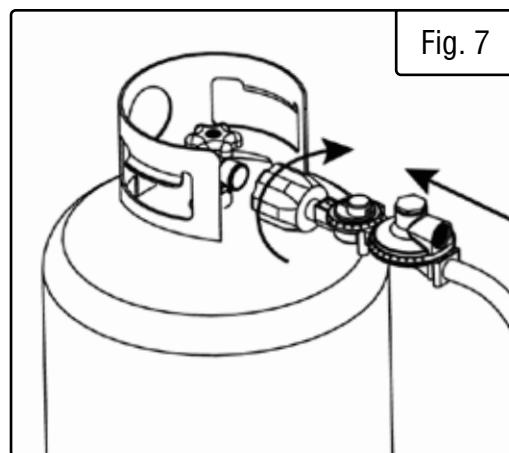

Fig. 7
2. With the LPG tank closed, attach the first-stage regulator to the valve. Turn the regulator's plastic coupling right (clockwise) to tighten the assembly onto the LPG tank (Fig. 7).